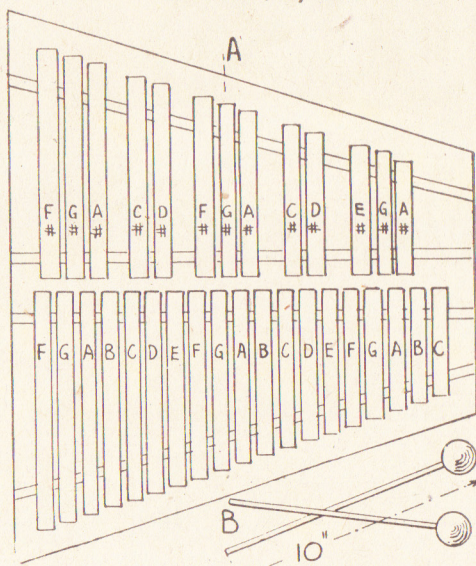

Fig. 2—Lay-out of notes and detail of beaters
The beaters should be made first, as they will be required for tuning as well as for actually playing the instrument later on. At (B) in Fig. 2 a pair of beaters is shown. Each consists simply of two hardwood balls about $1\frac{1}{4}$ ins. in diameter, with a hole bored through for a length of stout cane which must be securely glued in. A pair of ready-made beaters could be purchased, of course, at any good class instrument shop.
The size of the sounding box upon which the instrument is mounted can now be decided. It should be just $1\frac{1}{2}$ ins. larger all round than the space occupied by the notes when the latter are laid side by side, as in Fig. 2, with a space of $\frac{1}{4}$ in. between them.